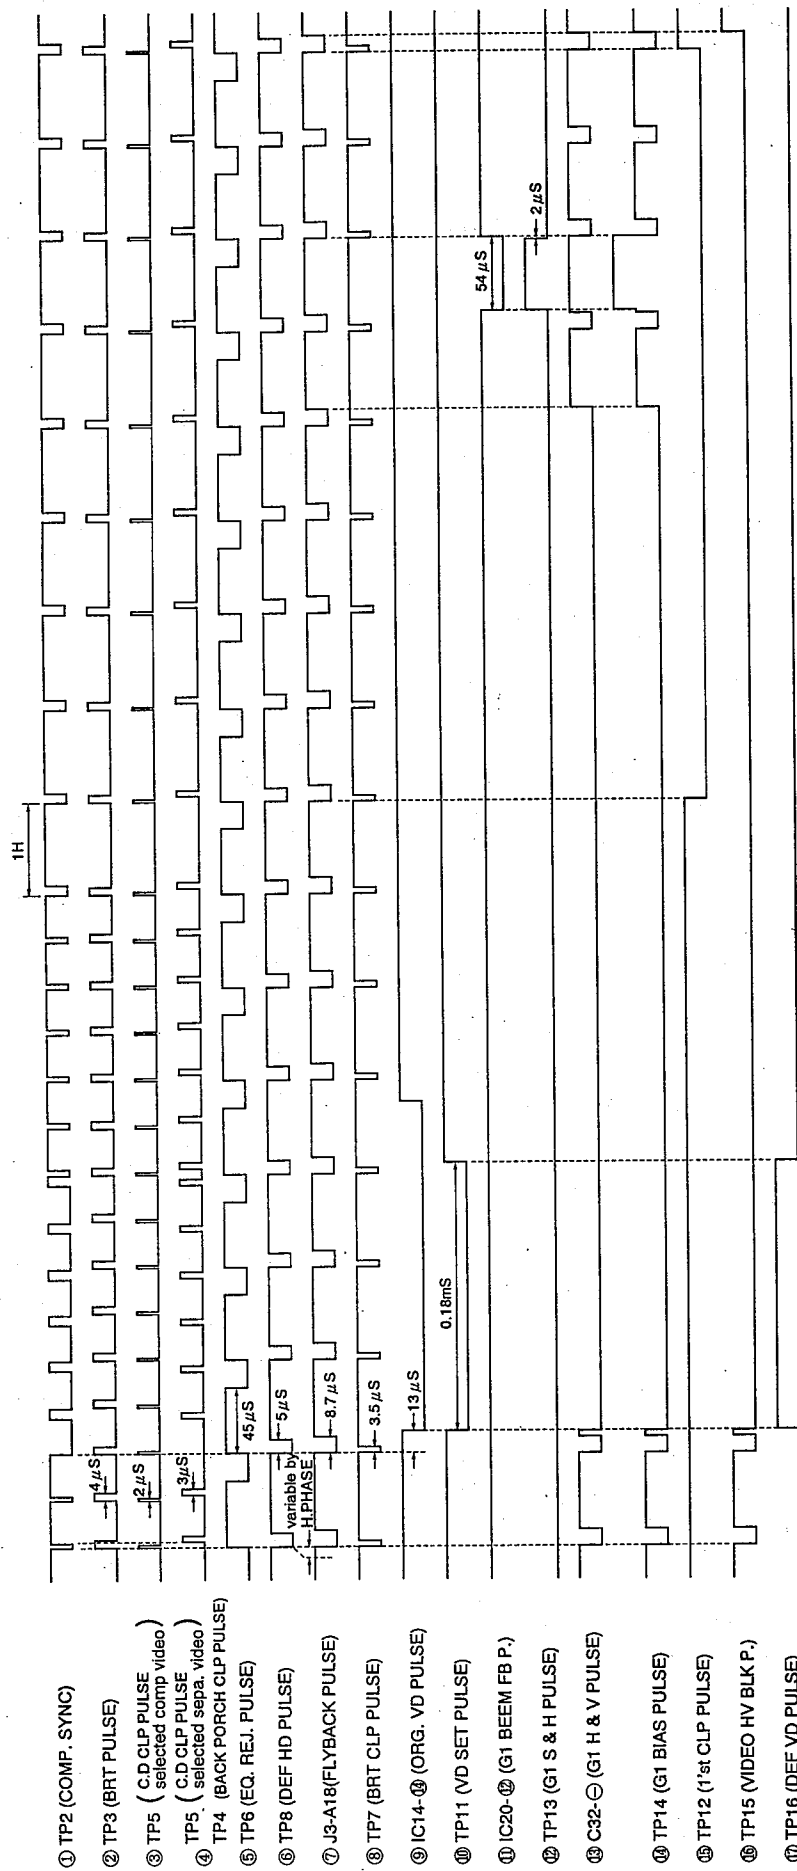

Fig 2.3 Timing chart
The negative composite synchronizing signal outputted from the IC5 No.14 pin is inputted to the IC6 ~ IC 8 monostable multivibrators. If it is inputted to "A" of the IC, it will be triggered at the rising edge and if inputted to "B", it will be triggered at the falling edge and, in both cases, it will be outputted from "Q" (positive polarity) or "Q̄" (negative polarity) at the pulse width determined by the time constant of the CR which is attached to the outside of the IC. For the phase of the pulse, refer to the timing chart shown in Fig. 2-3.
④ Equalizing pulse eliminating circuit
To eliminate the equalizing pulse which has been added to the composite synchronizing signal, the "Q" output width of the IC7 (2/2) monostable multivibrator is set to the width equivalent to two-third of 1H (Fig. 2-3 ⑤) and the output pulse is fed back to the "A" input.